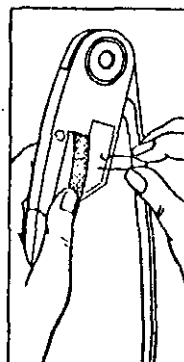

FIG 1A
1. Remove the safety clip lock wire from the selector control - fig. 1 or fig. 1A, page 9. Select wire size to be crimped and replace the safety clip lock wire to its original position.